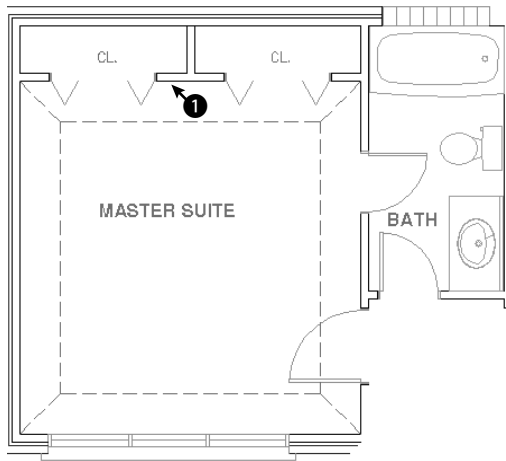

**Figure 11-30:** The master-bedroom-suite plan.
- Save the file as `ab11-06.dwg` in your AutoCAD Bible folder. This is a drawing of a master-bedroom-suite plan, as shown in Figure 11-30.
-  Pick the wall at ❶ in Figure 11-30. Click Match Properties from the Standard toolbar. At the Select destination object(s) or [Settings]: prompt, use a crossing window to select all of the folding closet doors on both sides of the line that you just selected. Press Enter to end object selection. This action matches the properties of the doors to the properties of the wall. (The doors turn from gray to black/white.)